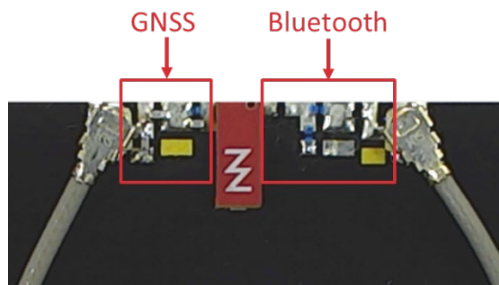
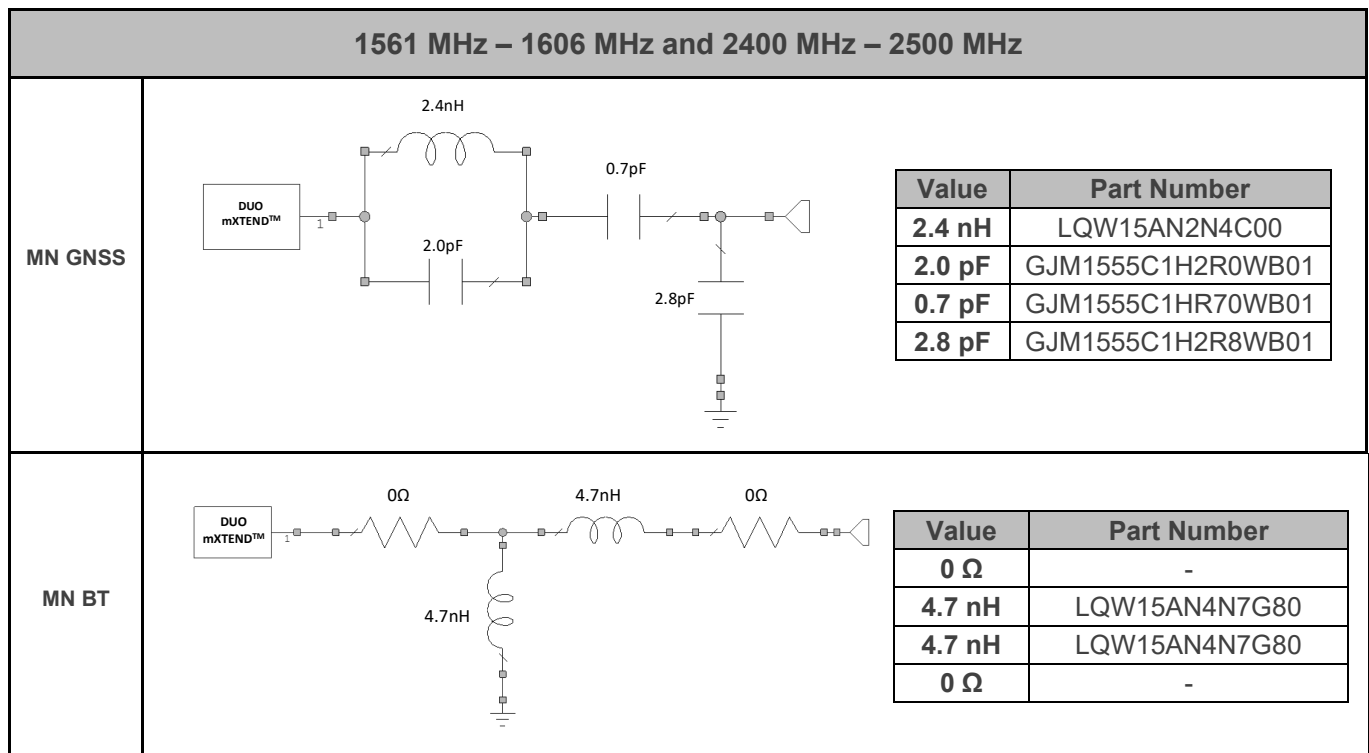

Figure 2 – Matching network distribution in the Evaluation Board (Figure 1).
Figure 3 – Matching network implemented in the Evaluation Board 1 port (Figure 1)
The DUO mXTEND[™] needs two matching networks to connect to your device, a first for the Bluetooth port, a second for the GNSS one (Figure 2). This section describes (in Figure 3) a suitable matching network for the DUO mXTEND[™] and the resulting product specs when measured in the reference evaluation board (EB_NN03-320-m-GNSS-BT) described in the previous section. Please note that different tracking devices with different form factors, RF ground planes, and nearby components may need a different matching network. If you need assistance to design your matching network beyond this application note, please contact support@ignion.io, or if you are designing a **different device size** or a **different frequency band**, we can assist you in less than 24 hours. Please, try our free-of-charge¹ Antenna Intelligence Cloud, which will get you a complete design report including a custom matching network for your device in 24h¹. Additional information related to Ignion’s range of R&D services is available at: <https://ignion.io/rdservices/>
To ensure optimal results, the use of high-quality factor (Q) and tight tolerance components is highly recommended (e.g., Murata components with part numbers as in Figure 3). The antenna performance is always conditioned by its operating environment so that different devices with different printed circuit board sizes, components nearby the antenna, LCDs, batteries, covers, connectors, etc. affect the antenna performance. Accordingly, it is highly recommended placing pads compatible with 0402 and 0603 SMD components for a matching network as close as possible to the feeding point of the antenna element. Do it in the ground plane area, not in the clearance area. By tuning the matching network in your final design with your final surrounding components (batteries, displays, covers, etc.) you will be able to optimize the antenna performance without changing the antenna part.